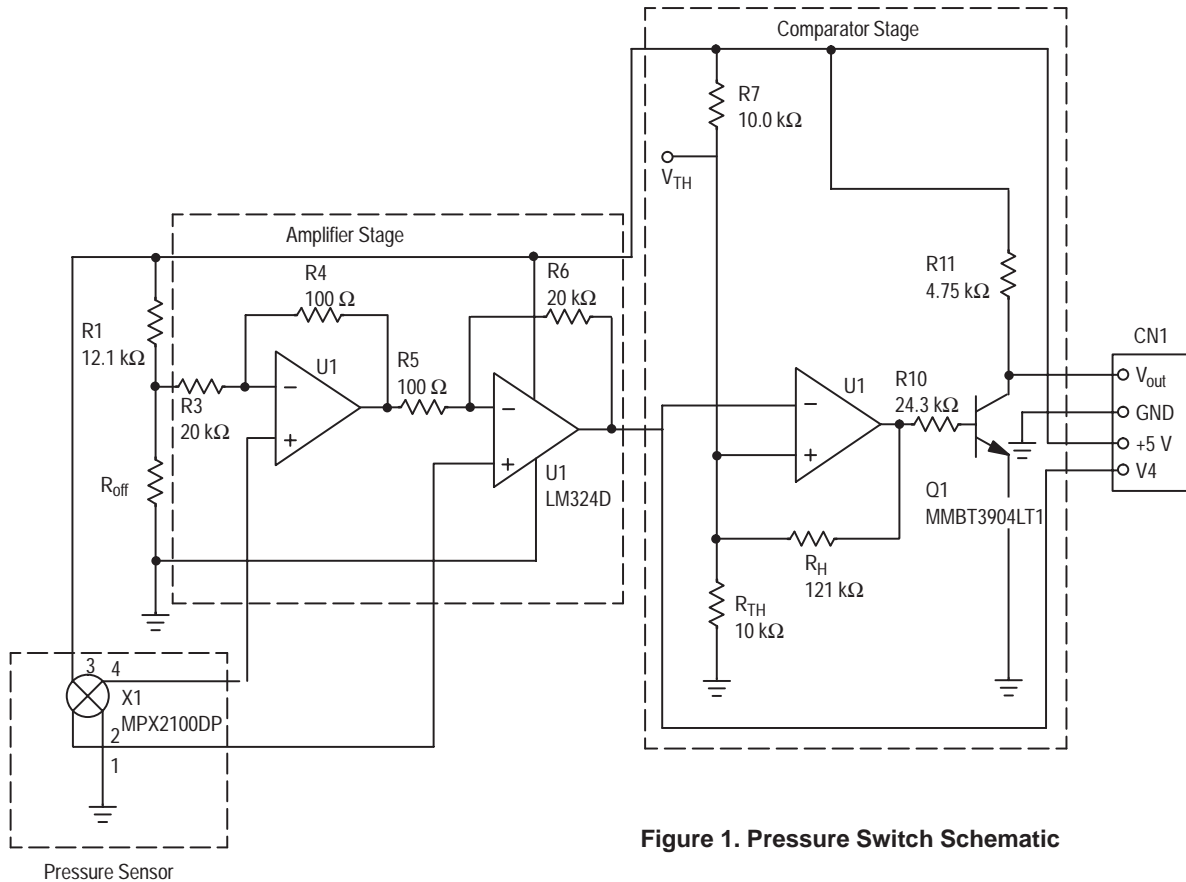

Figure 1. Pressure Switch Schematic
The amplifier circuitry, shown in Figure 1, is composed of two op-amps. This interface circuit has a much lower component count than conventional quad op amp instrumentation amplifiers. The two op amp design offers the high input impedance, low output impedance, and high gain desired for a transducer interface, while performing a differential to single-ended conversion. The gain is set by the following equation:
- The threshold for which the output switches must be programmable. The threshold is easily set by dividing the supply voltage with resistors $R7$ and R_{TH} . In Figure 1, the threshold is set at 2.5 V for $R7 = R_{TH} = 10\text{ k}\Omega$.
speed is comparable to the LM311's. This enhanced performance does, however, require an additional transistor and base resistor. Referring to Figure 1, note that this comparator topology was chosen for the pressure switch design. The LM324 is a quad op amp that has equivalent amplifier characteristics to the LM358.
Like the other two circuits, this comparator circuit can be designed with the same equations and procedure. The values for R_B and R_{PU} are chosen to give a 5:1 ratio in Q1's collector current to its base current, in order to insure that Q1 is well-saturated (V_{out} can pull down very close to ground when Q1 is on). Once the 5:1 ratio is chosen, the actual resistance values determine the desired switching speed for turning Q1 on and off. Also, R_{PU} limits the collector current to be within the maximum specification for the given transistor (see example values in Figure 1). Unlike the other two circuits, this circuit is positive logic due to the additional inversion created at the output transistor stage.